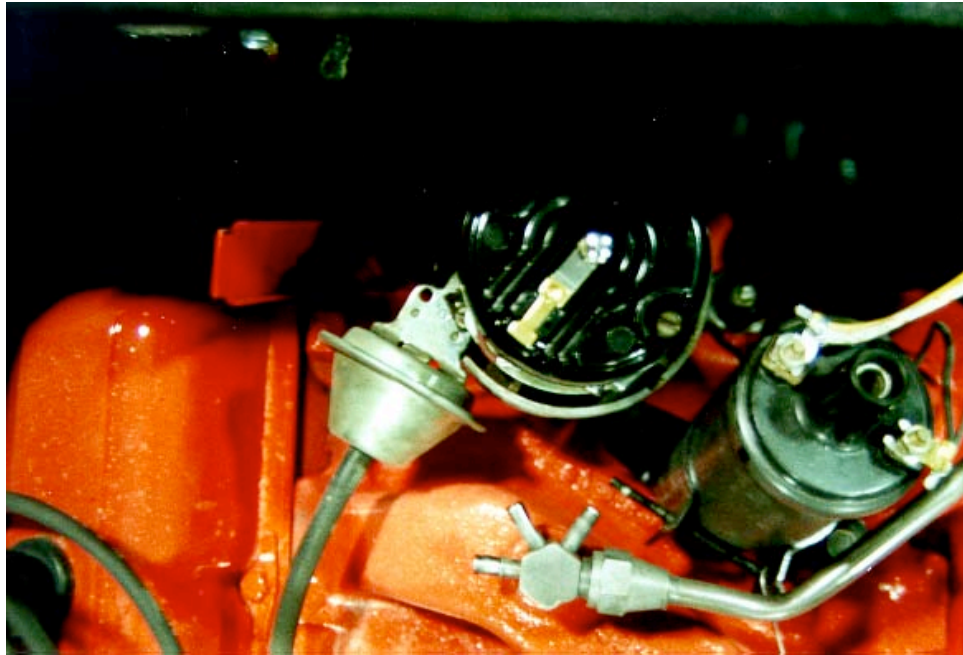

Figure 1: Distributor & Rotor Correctly Installed at #1 Firing Position
3. Hold the distributor body in the orientation show in figure 1 relative to the engine/block and drop the distributor straight down into the block. Pay no attention to rotor orientation at this time. If the rotor is aligned with the oil pump driveshaft, the distributor will drop all the way down and seat. If the rotor does NOT line up, the distributor will not drop all the way down.
6. Once you have "walked" the rotor into position, you should be able to obtain the orientation of the distributor body and the rotor as shown in Figure 1. Install the distributor hold-down clamp and bolt. Snug it, but leave it loose enough that you can rotate the distributor smoothly.
7. Attach an Ohm-Meter (continuity tester) between the distributor primary lead wire (the wire coming out of the bottom of the distributor body) and ground (any point on the engine). Rotate the distributor body SLIGHTLY clockwise from the orientation shown in Figure 1 until you read continuity (points are closed – giving continuity to ground). Now, SLOWLY rotate the distributor body counter-clockwise until the points JUST break open (loss of continuity on the ohm meter). The instant the points break open is the ignition firing point. Tighten your distributor hold-down bolt at this point. Your distributor body and rotor should now be aligned like Figure 1 (or VERY close).